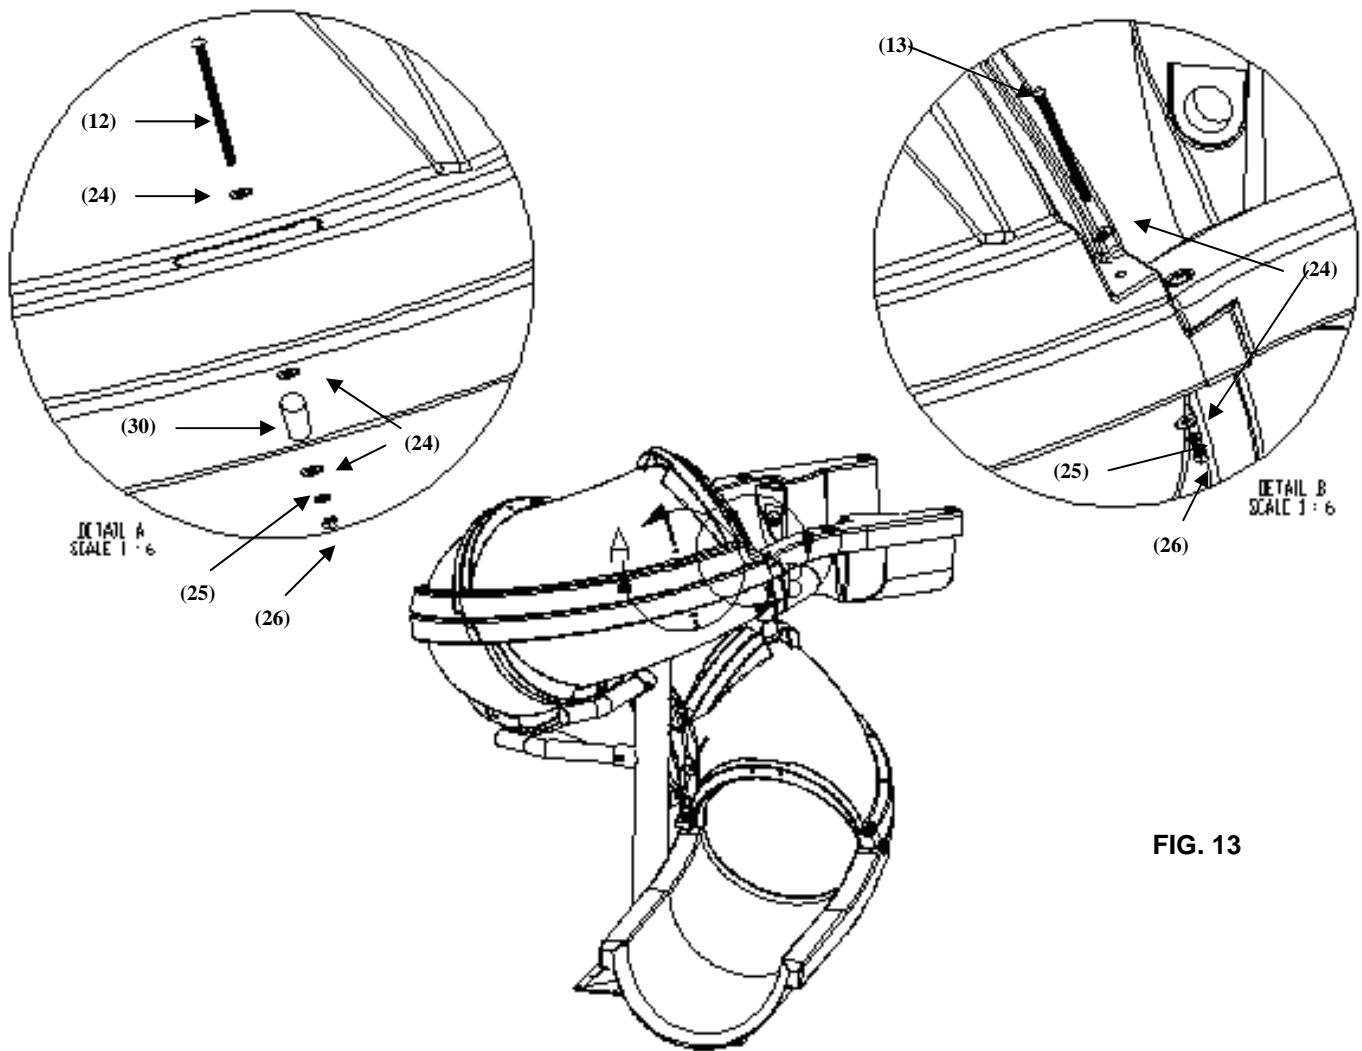

FIG. 13
10) For this portion of the installation you will need 3-4 people. Slide all four pieces of the top portion of the flume up the slide from the bottom. **Make sure the gasket is in place.** Next, attach the hardware at the top of the runway as shown in Figure 13, Detail B. The hardware required for this step is as follows: 3/8"-16 x 6" Button Head Cap Screw S/S (13), 3/8" Flat Washer S/S (24), 3/8" Flat Washer S/S (24), 3/8" Lock Washer S/S (25), 3/8" Hex Nut S/S (26). Next, working from the top to bottom, fasten the flumes together along the outside edge as shown in Figure 13, Detail A. The required hardware is as follows: a 3/8"-16 x 5" Button Head Cap Screw S/S (12), 3/8" Flat Washer S/S (24), 3/8" Flat Washer S/S (24), 1/2" Sch 40 PVC Spacer 3.25" (30), 3/8" Flat Washer S/S (24), 3/8" Lock Washer S/S (25), 3/8" Hex Nut S/S (26). Tighten the hardware until the gap in the joint is closed.